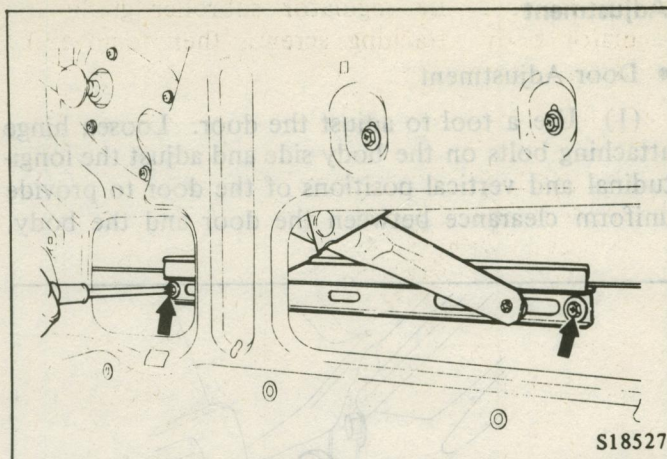

Fig. 55 Removing the Door Glass
(4) Peel the waterproof film off being careful not to damage it.
(5) With the door glass fully lowered, remove the regulator and the door glass attaching screws through the working hole, and bring it down. (Fig. 55)